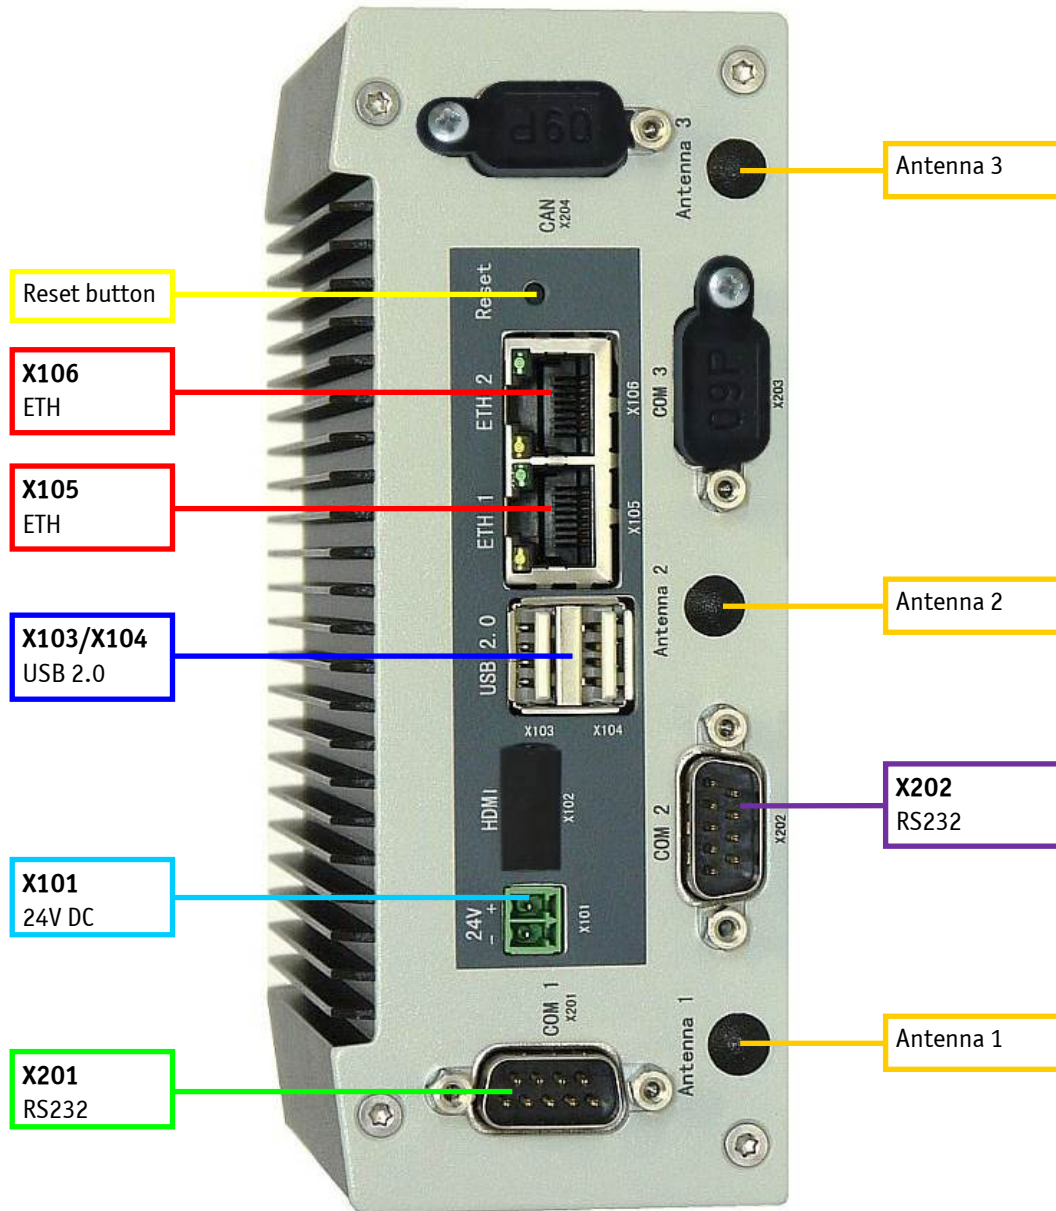
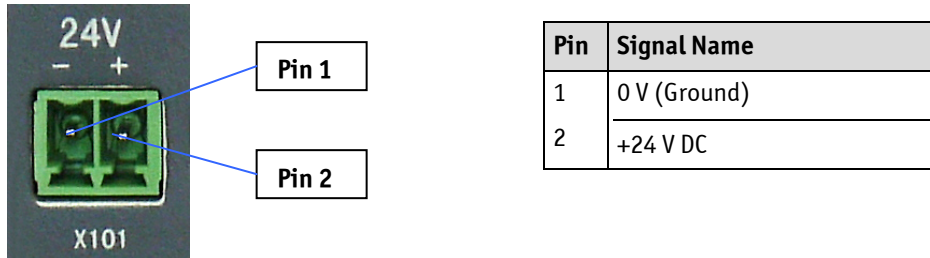

Fig. 4: Front view of KBox A-201
Fig. 6: X101 – 24 V DC power input connector
The 2-pin connector (X101, Fig. 4, Fig. 6) provides the power connection of the KBox A-201/A-202 to the appropriate DC main power supply. For pin assignments refer to the subsection 11.1.1.
This is a HDMI compliant interface realized using a HDMI 1.1 connector. An external (digital) display can be connected to the HDMI connector (X102, Fig. 4). For pin assignment refer to subsection 11.1.7 “(X102) HDMI Port”.
The KBox A-201/A-202 provides two USB 2.0/1.1 interfaces. These connectors (X103/X104, Fig. 4) allow connection of USB-compatible devices to the system. For pin assignment refer to subsection 11.1.5.
The connectors are standard 8-pin RJ45 type connectors (Fig. 4) with status LEDs:
This interface (X201, Fig. 4) is provided as a 9-pin D-SUB connector; it is RS232 configured and allows the connection of a serial peripheral. For pin assignment refer to subsection 11.1.2.
This interface (X204, Fig. 4) is provided as a 9-pin D-SUB and allows the connection of a serial peripheral. It is designed to support RS232 serial communication. For pin assignment refer to subsection 11.1.3.
This interface (X204, Fig. 4) is provided as a 9-pin D-SUB and allows the connection of a serial peripheral. It is designed to support RS485 serial communication. For pin assignment refer to subsection 11.1.4.
Depending on the ordered system configuration, the KBox A-201/A-202 system can be equipped with WiFi hardware. If you have ordered a system configuration including WLAN, two Reverse (RP) SMA-connectors for screwing on the provided WLAN antennas are installed at the front side (Fig. 4; "Antenna 1" and "Antenna 3"). The "Antenna 2" connector is intended for future use only.
During the installation of the KBox A-201/A-202 the provided system antennas (Fig. 14) will be screwed onto the RP SMA connectors (Fig. 4; "Antenna 1" and "Antenna 3") of the system. The antennas may be tilted and rotated in the appropriate positions to get the optimal transmission and reception quality.